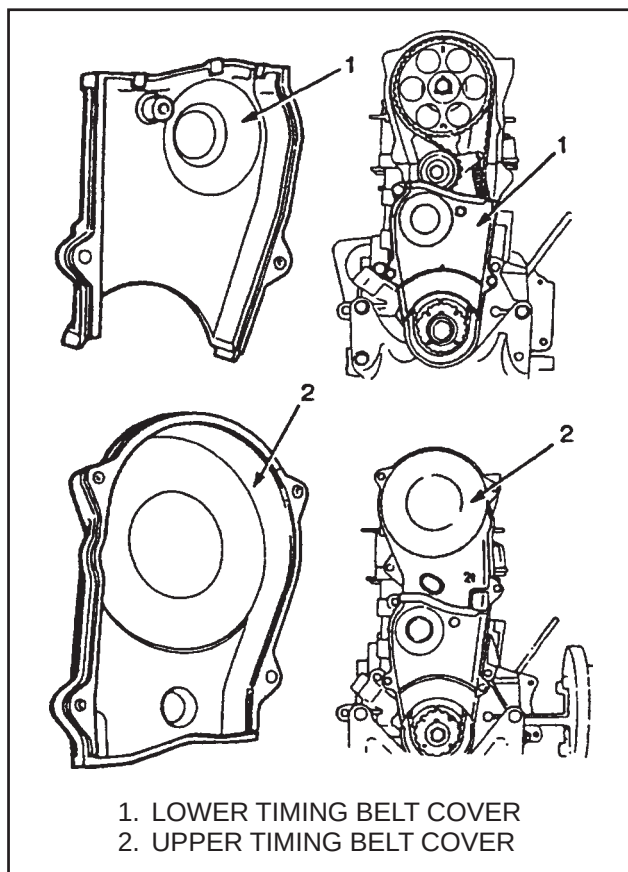

FIGURE 26. TIMING BELT COVERS
15. See FIGURE 26. Install the lower timing belt cover and gasket. Tighten the cap screws to 6.9 to 7.8 N.m (70 to 80 kgf·cm) for FE, to 6.9 to 9.8 N.m (70 to 100 kgf·cm) for F2 engine. Install the upper timing belt